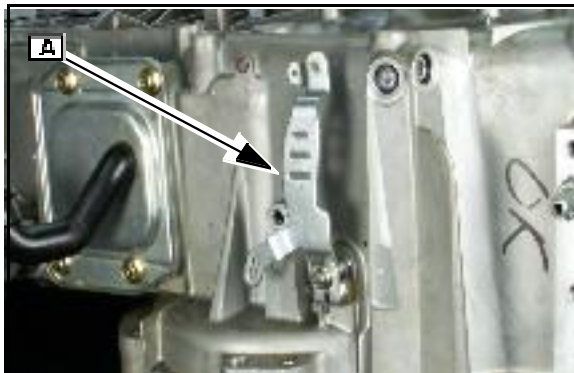

Fig. 38
1. Mount the governor lever (A) on the governor shaft as shown in Fig. 38.